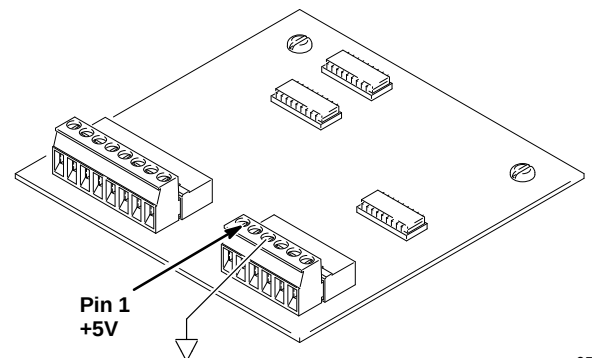

Fig. 5
4. Verify that the correct dc voltage is going to the current/temperature board. It should be +5 Vdc. See Fig. 5, page 3 for the terminal numbers.